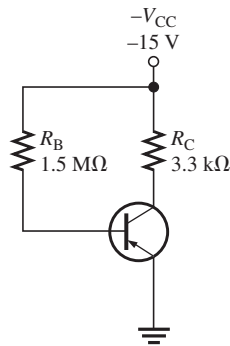

FIGURE 3-69
10. For the base-biased *pnnp* transistor in Figure 3-69, assume $\beta_{DC} = 200$. Find I_C and V_{CE} .
11. For each of the following conditions in the circuit of Figure 3-69, determine if the collector current will increase, decrease, or remain the same: